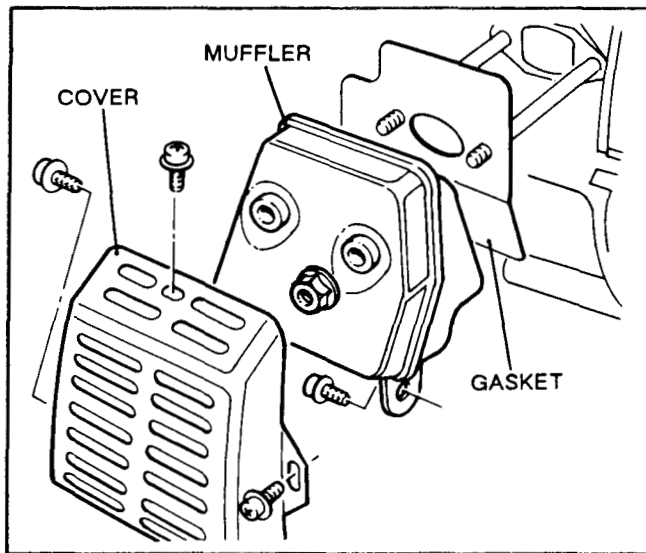

Figure 164
1. Remove the three screws that secure the muffler cover to the engine and remove the cover. See Figure 164.